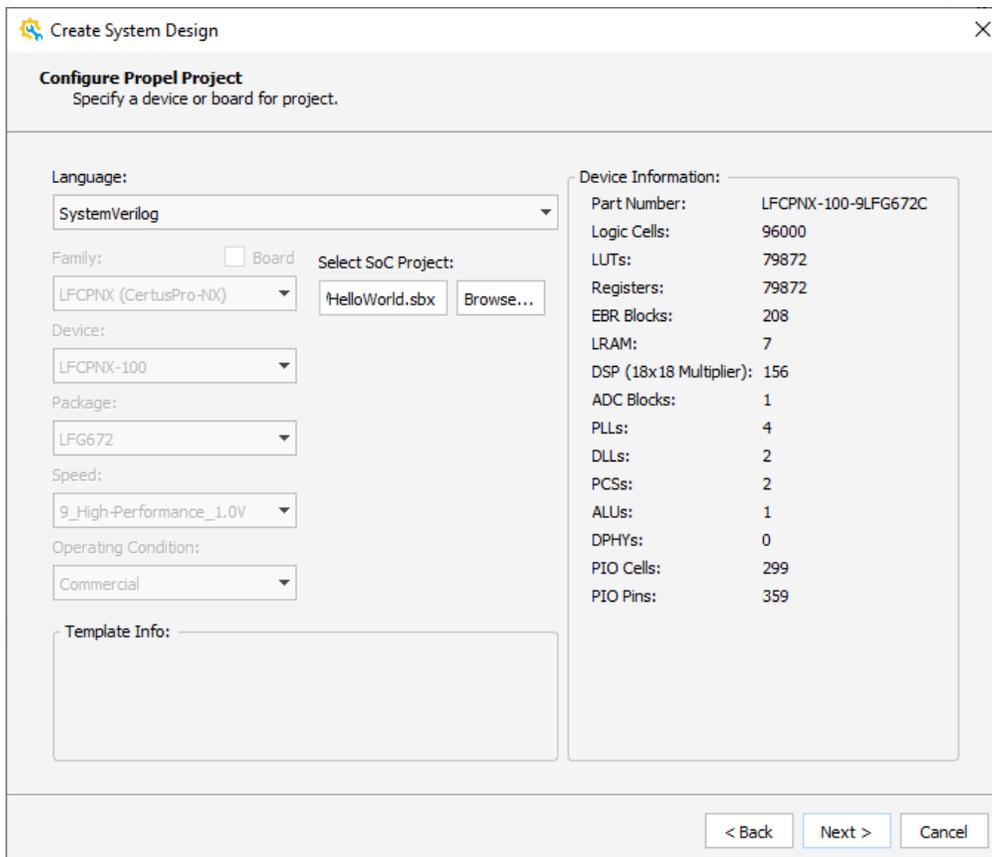

Figure 2.91. Create System Design – Propel Project Configure Wizard
5. Click **Next**. The Propel Project Configure wizard is shown as Figure 2.91.